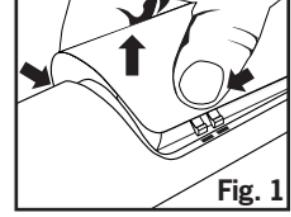

Fig. 1
- 1 Remove diffuser (**C**) by pressing in the sides of diffuser at the tabs and lifting up (**Fig. 1**).
- 1 Remove diffuser by pressing in the sides of diffuser at the tabs and lifting up (**Fig. 1**).